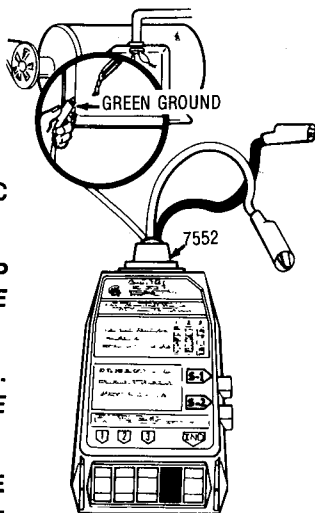

Figure 35
Step 2. Connect the green clip lead of the test probe to the ground terminal of the system or to the grounded case of the junction box or panel board (Fig. 35).